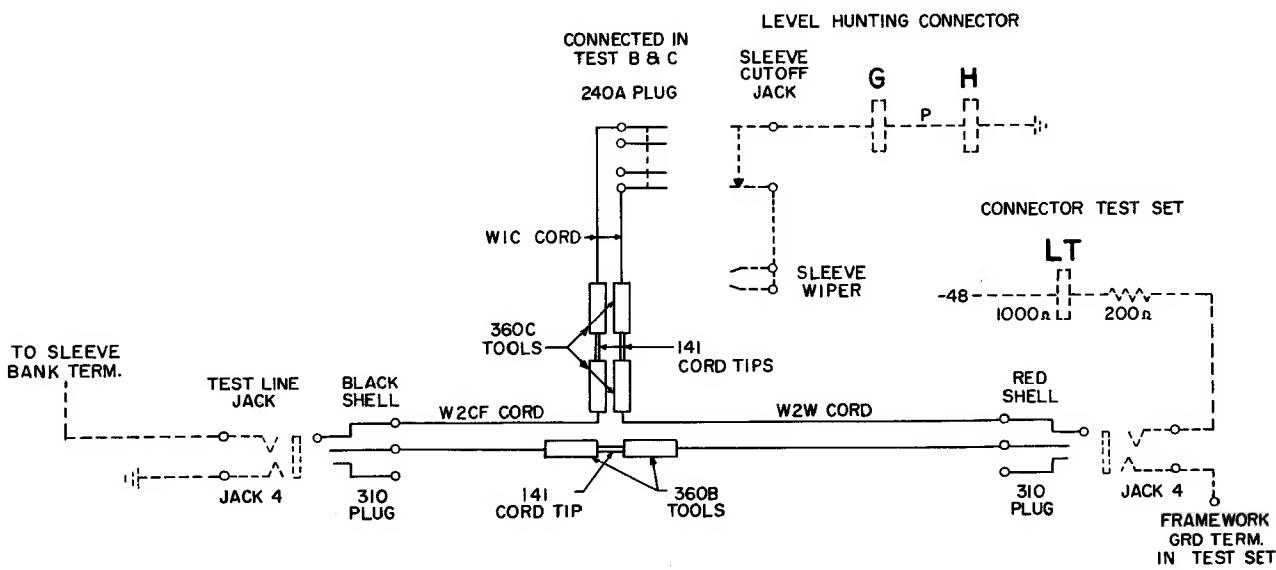

Fig. 1 – Testing Cord
4	Insert black shelled 310 plug of special test cord (Fig. 1) into jack 4 of test line (level hunting) on connector frame, and insert red shelled 310 plug of special test cord (Fig. 1) into jack 4 of test set.
2.07 Testing cord, W2W, equipped with 310 plug, 360B tool, and 360C tool (2W17A cord); W2CF cord equipped with 310 plug (replace red shell with black shell), 360B tool, 360C tool (2W17D cord); two W1C cords, each 12 feet long; two 360C tools; 240A plug; three 141 cord tips. Connect to form special cord as shown in Fig. 1.
14	Insert 240A plug (stay cord to the right) of special test cord (Fig. 1) into sleeve cutoff jack of connector. Note: If sleeve cutoff jack wiring is reversed, reverse 240A plug of special test cord.